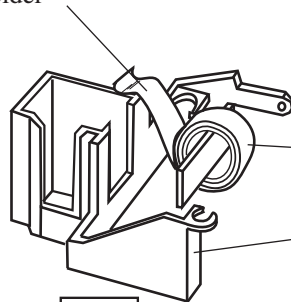

Fig.2
- 2) Put the torsion spring installed on brush holder, on the side of brush holder after detaching carbon brush as illustrated in Fig.2. This is necessary for avoiding to scratch the armature's commutator, when armature is pulled out from motor housing.